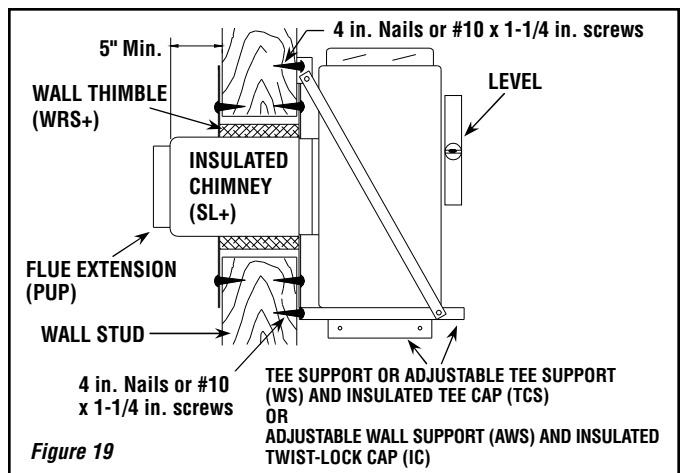

Figure 19
Step 5. This step will require 2 people: (*See figure 19*). Insert the chimney length of this tee-support assembly into the hole in the wall. Using a level, ensure the tee is vertical, then attach the support to the wall using (8) N°. 10 x 1 - 1/4" wood screws or 4" spiral nails.